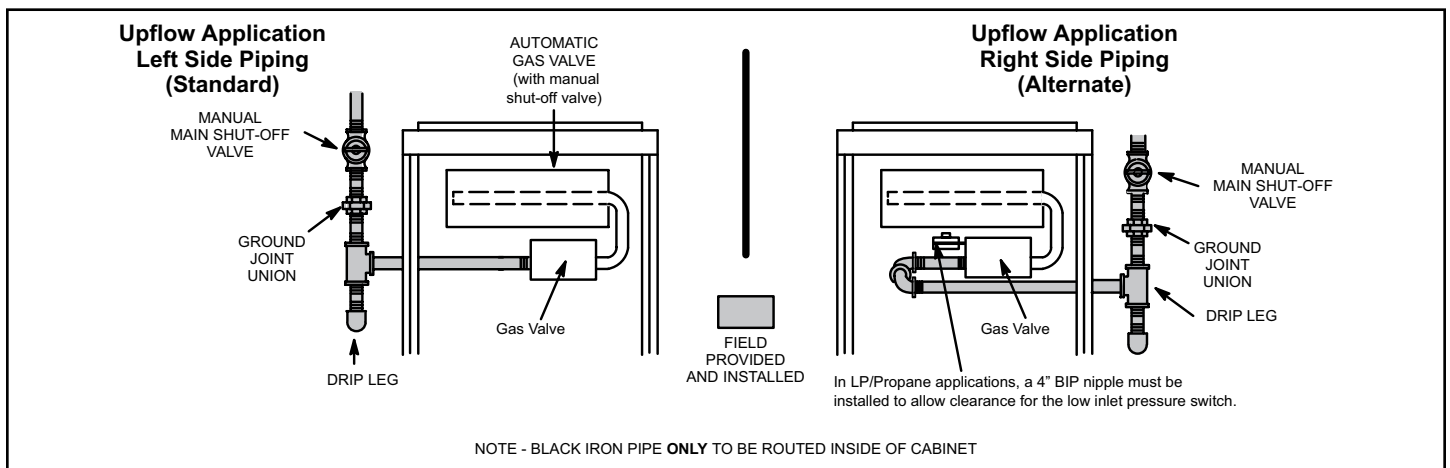
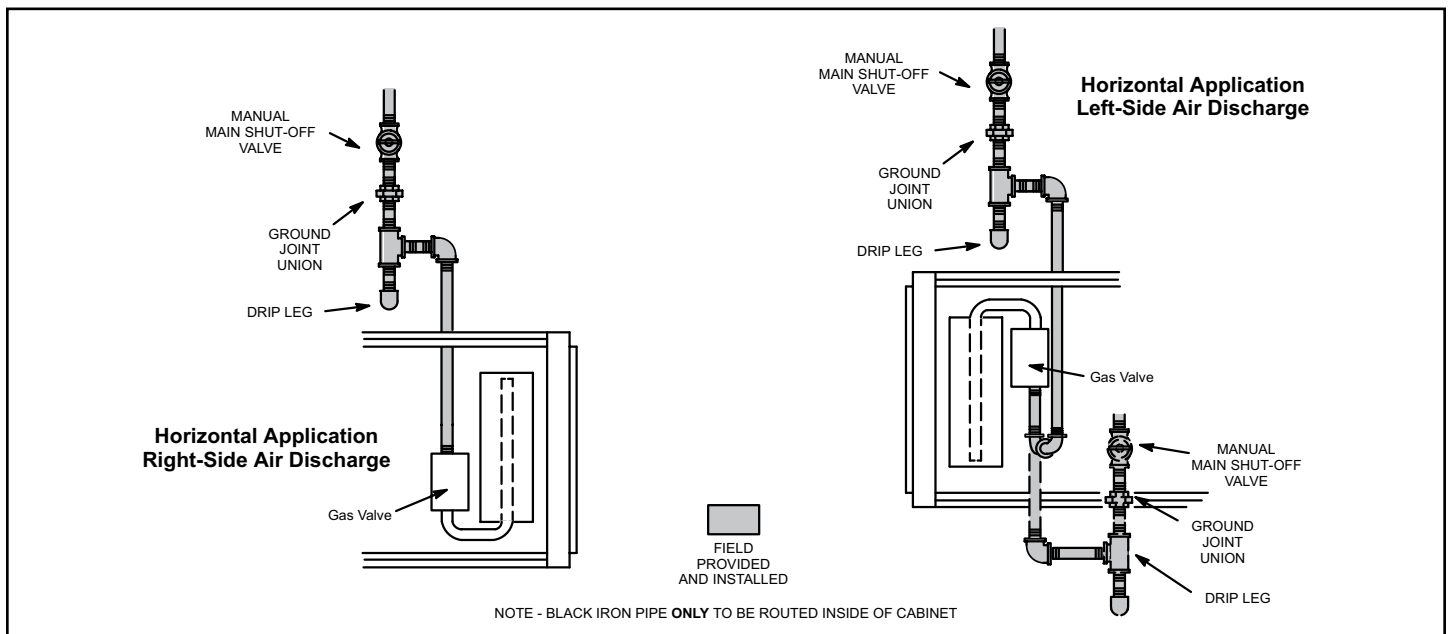

Figure 61. Upflow Applications
Figure 62. Horizontal Applications
1. Gas piping may be routed into the unit through either the left or right hand side. Supply piping enters into the gas valve from the side of the valve as shown in Figure 61 and Figure 62.
3. Gas piping must not run in or through air ducts, clothes chutes, chimneys or gas vents, dumb waiters or elevator shafts. Center gas line through piping hole. Gas line should not touch side of unit. See Figure 61 and Figure 62.